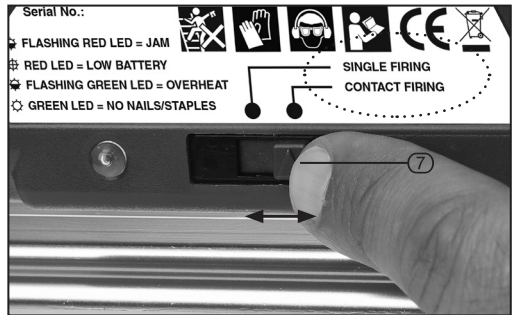

FIG. 4
6.3 SINGLE/CONTACT FIRING – FIG. 4